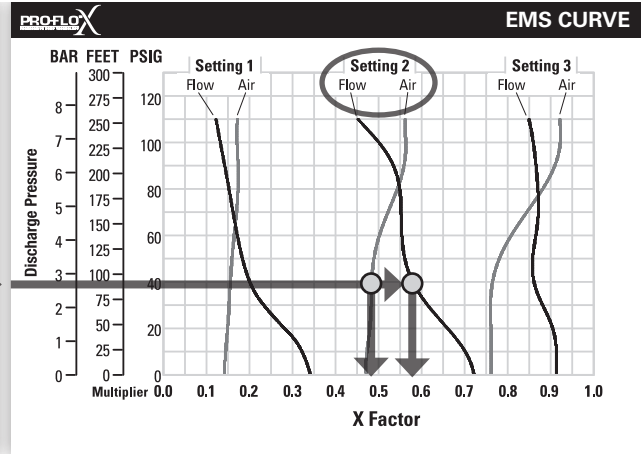

Figure 2
**FIGURE 2** When the pressurized diaphragm, diaphragm A, reaches the limit of its discharge stroke, the air valve redirects pressurized air to the back side of diaphragm B. The pressurized air forces diaphragm B away from the center while pulling diaphragm A to the center. Diaphragm B is now on its suction stroke. Diaphragm B forces the inlet valve ball onto its seat due to the hydraulic forces developed in the liquid chamber and manifold of the pump. These same hydraulic forces lift the discharge valve ball off its seat, while the opposite discharge valve ball is forced onto its seat, forcing fluid to flow through the pump discharge. The movement of diaphragm A toward the center of the pump creates a vacuum within liquid chamber A. Atmospheric pressure forces fluid into the inlet manifold of the pump. The inlet valve ball is forced off its seat allowing the fluid being pumped to fill the liquid chamber.
**Step 2: Determining flow and air X Factors.** Locate your discharge pressure (40 psig) on the vertical axis of the EMS curve (Figure 2). Follow along the 2.8 bar (40 psig) horizontal line until intersecting both flow and air curves for your desired EMS setting (in this case, setting 2). Mark the points where the EMS curves intersect the horizontal discharge pressure line. After locating your EMS points on the EMS